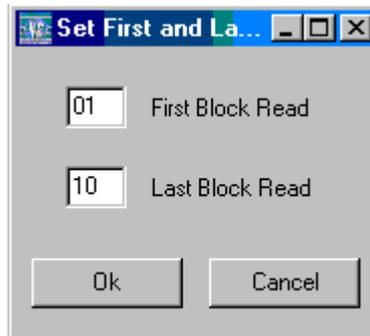

Figure 6 Enter block addresses
2. Enter the current password value (see Figure 6 Enter password)